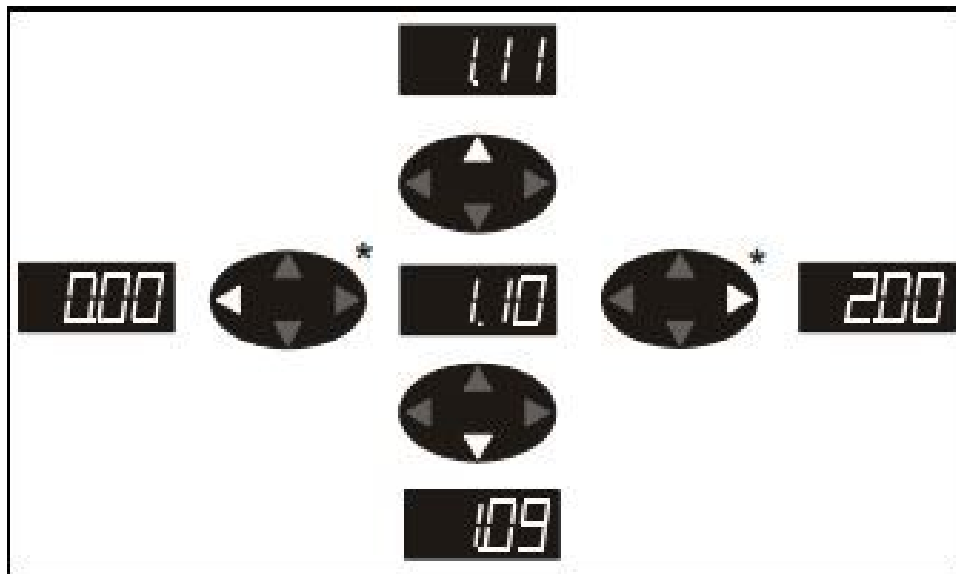

Figure 19
1. To enter the menu screen press the black mode button (M). Once in the menu screen the upper display will be flashing. You can navigate through the various menus by pressing the left and right arrows on the joypad. To change to different parameters in a menu press the mode button again. The parameter value in the lower display will begin flashing then use the up and down arrows of the joypad to change the value. (Figure 19,20)